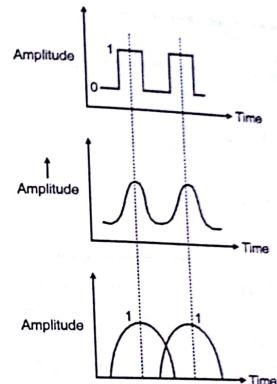

Fig. 5.9.1 : Variation in waveform
- The light pulses that propagate through a fibre suffer several dispersion effects. The dispersion effects spread the output pulse and changes its shape, so that it may merge into the succeeding or previous pulses as shown in Fig. 5.9.1. Hence pulses are separated out, affecting the maximum bit rate.